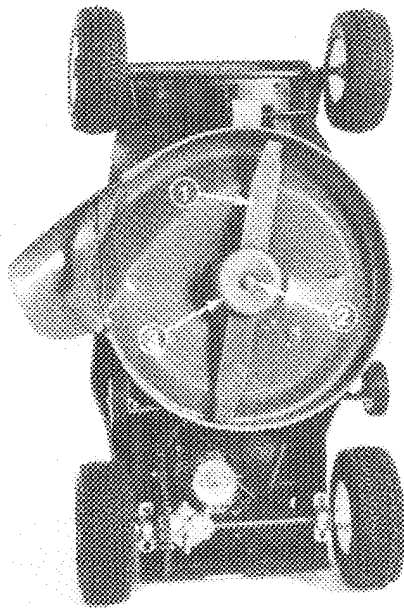

Figure 27
6. Grasp end of blade using a rag or thickly padded glove; then remove lock nut, anti-scalp cup and blade (Fig. 27).
9. In sequence, install blade, anti-scalp cup and lock nut (Fig. 27). Tighten lock nut to 45-60 ft-lb (61-81 N·m).